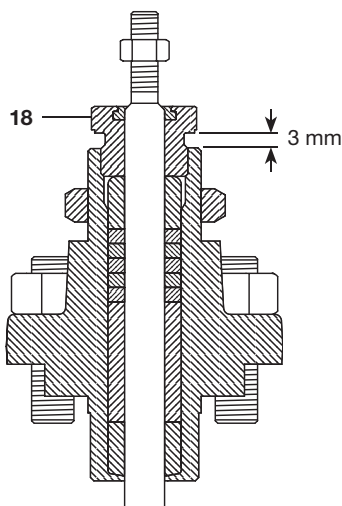

Fig. 12
- Tighten the gland nut (18) until:
- ii) Graphite gland assembly: A gap of 3 mm between the underside of the gland nut and the bonnet is achieved. See Figure 12.
- Refit the lock-nut (3).